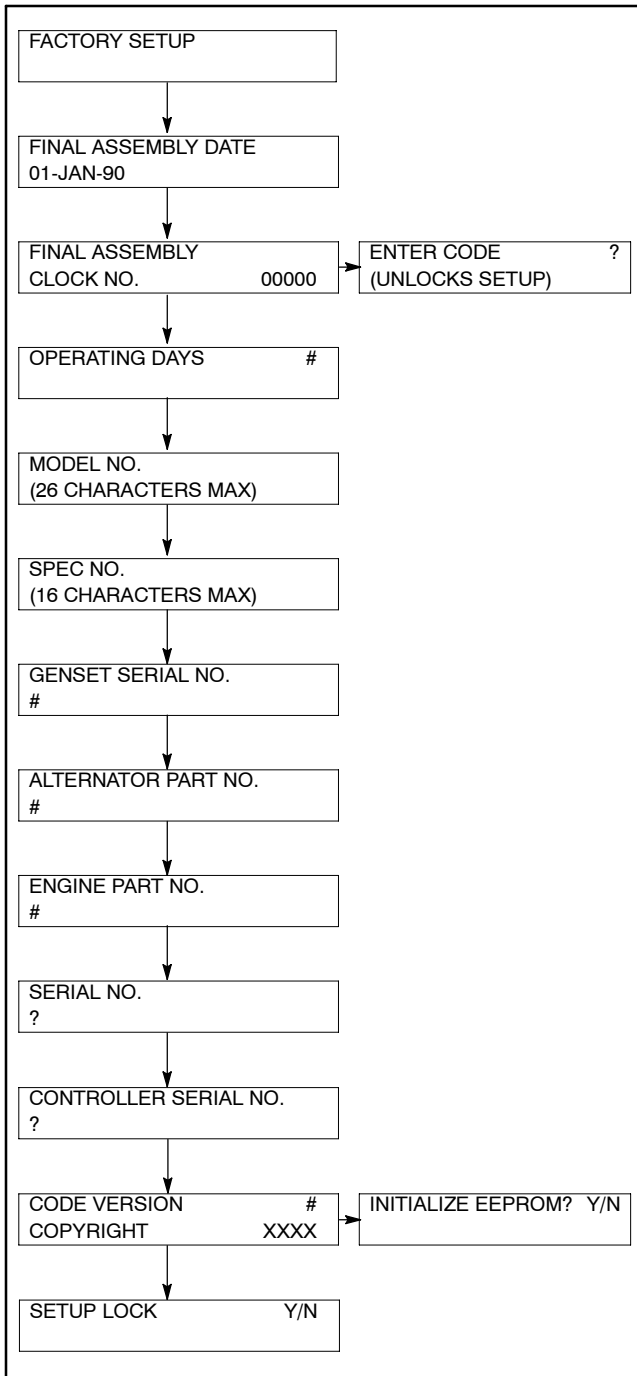
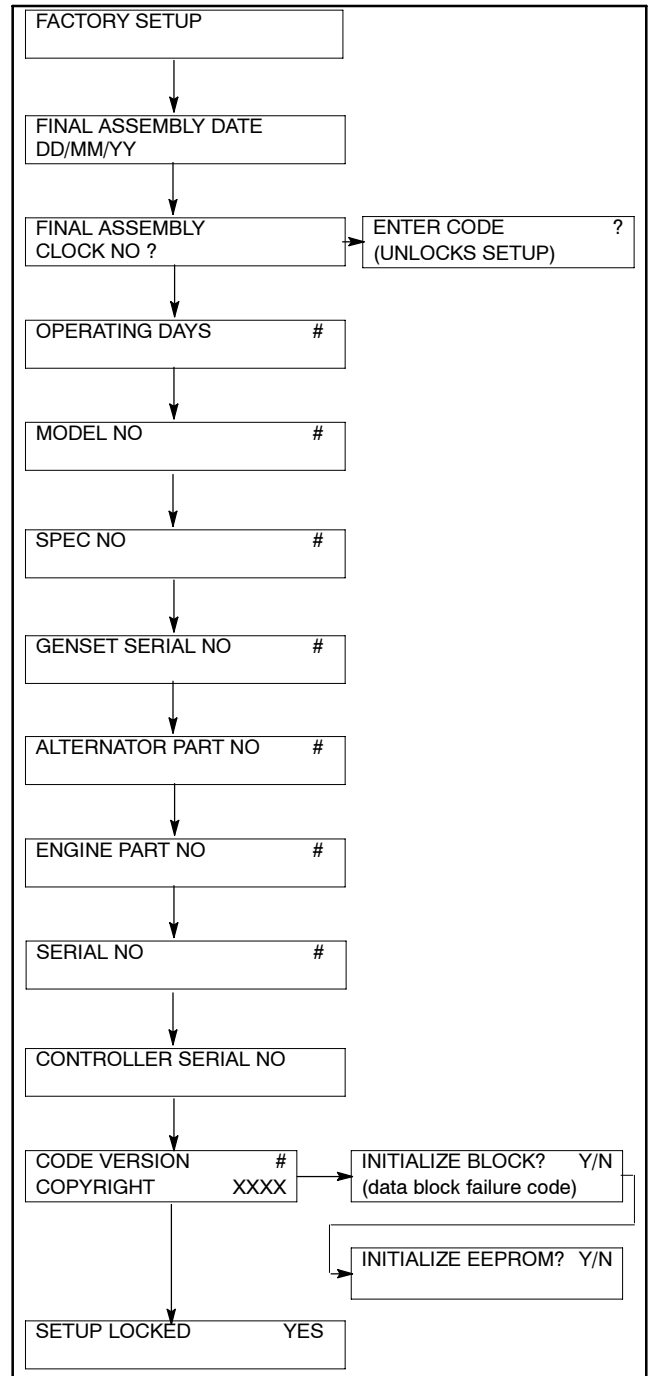

Figure 5 Menu 20, Factory Setup
Figure 6 Menu 20, Factory Setup
22. Use the controller keypad to go to Menu 20, Factory Setup. See Figure 5 or Figure 6 for displays.
- a. Go to Menu 20, Factory Setup. See Figure 5 or Figure 6 for displays.